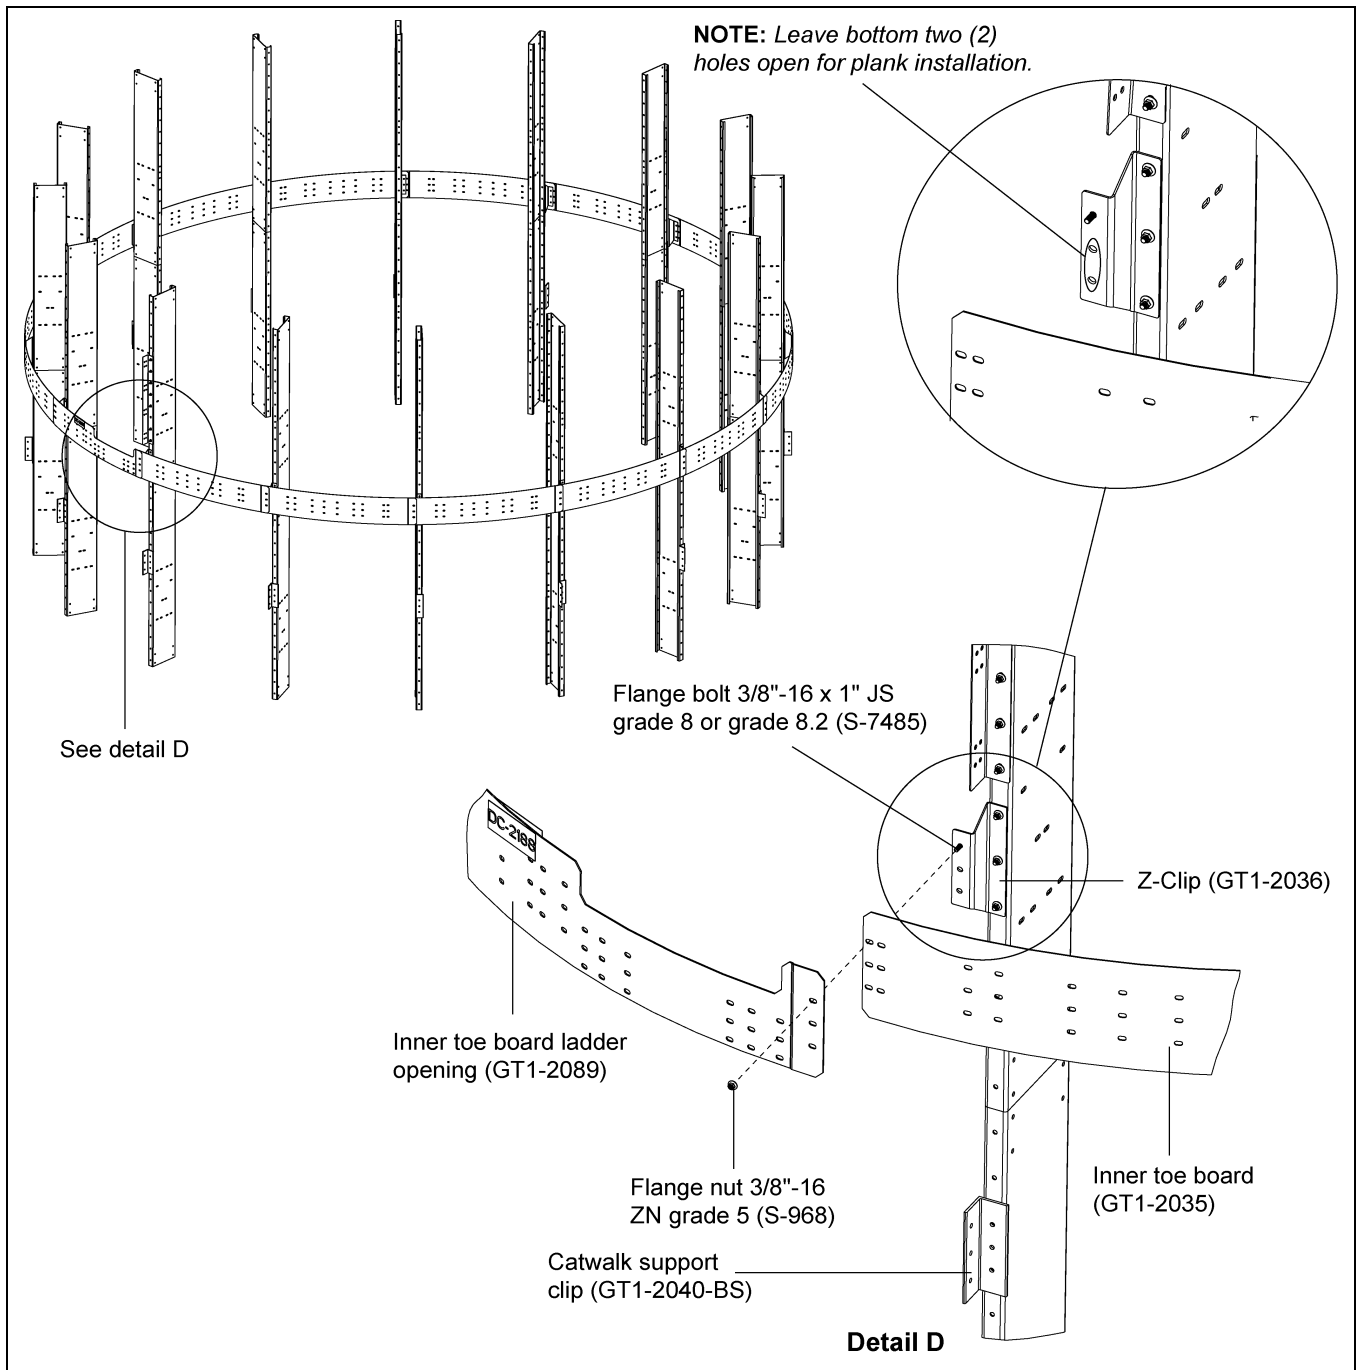
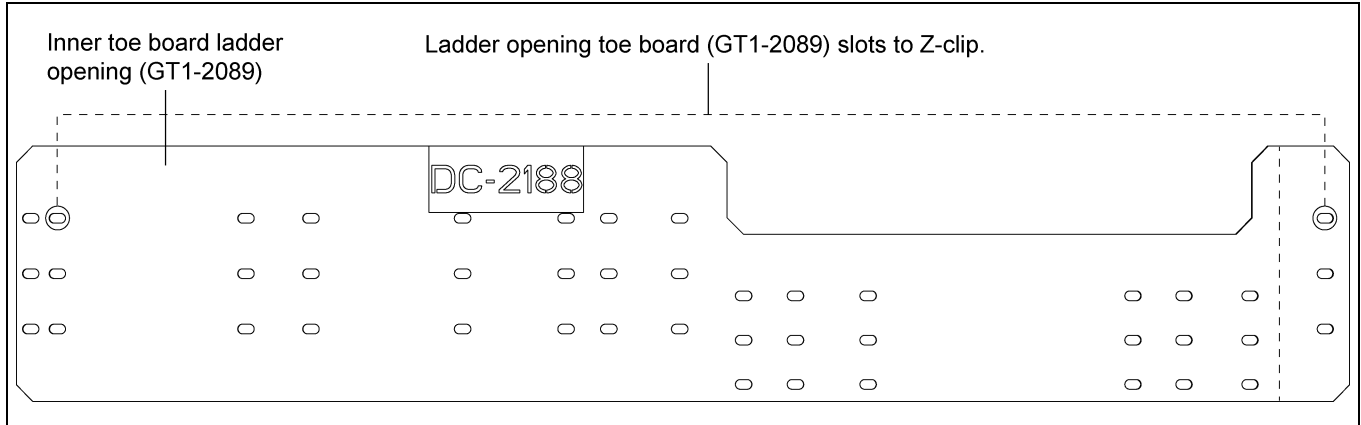

Figure 4G
Figure 4H 24' Ladder Opening Toe Board (GT1-2089)
1. Install the inner toe board (GT1-2035) to the Z-clips (GT1-2036). All toe boards should be installed between the Z-clips using 3/8"-16 x 1" JS grade 8 or grade 8.2 bolts (S-7485) and 3/8"-16 ZN grade 5 nuts (S-968). (See Figure 4G.)
2. At the ladder location, install the ladder opening toe board (GT1-2089) to Z-clips using 3/8"-16 x 1" JS grade 8 or grade 8.2 bolts (S-7485) and 3/8"-16 ZN grade 5 nuts (S-968) in such a way that toe board opening falls on the ladder path. (See Figure 4G below and Figure 4H on Page 18.)